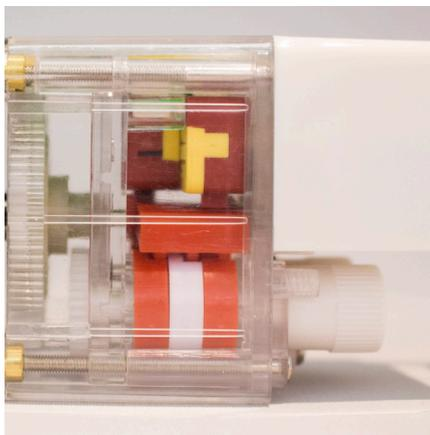

Figure 4
- d) When this is established, the limit stops can be set by depressing and turning either clockwise or anticlockwise until the indentations in the 3 rotating discs (fig 4) viewed through the transparent motor housing are all one above the other. You will hear a click and see the arm of the switch drop into the indents. This procedure must be carried out for both directions so that the switch drops into the indents at the required positions for the motor to stop.